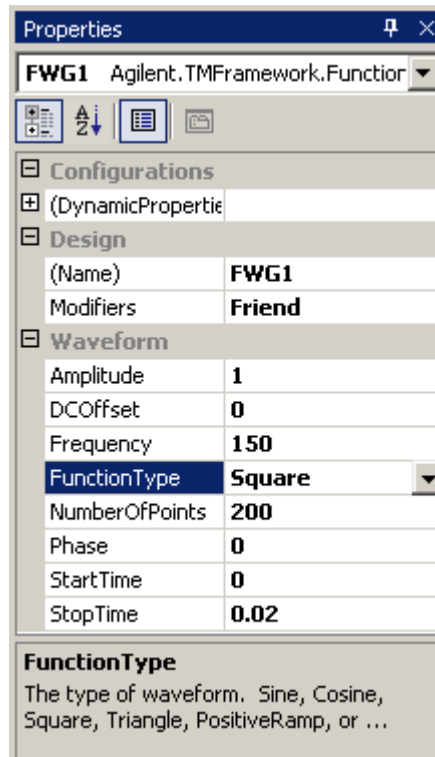

Figure 16 FWG1 Property Settings
- 4** Configure the Properties of the FWG1 as shown in Figure 16 on page 55.